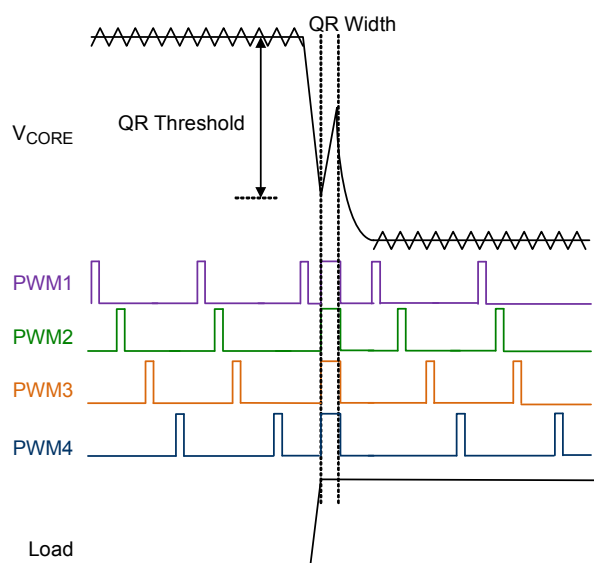
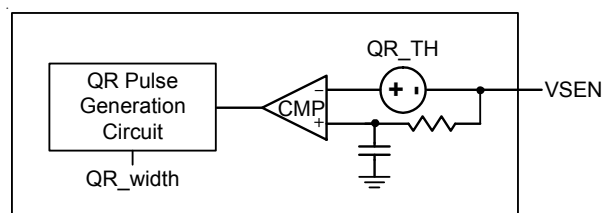

Figure 21. Quick Response Mechanism
Figure 22. Simplified QR Trigger Schematic
When the transient load step-up becomes quite large, it is difficult for loop response to meet the energy transfer. Hence, that output voltage generate undershoot to fail specification. The RT3607CE has Quick Response (QR) mechanism being able to improve this issue. It adopts a nonlinear control mechanism which can disable interleaving function and simultaneously turn on all UGATE one pulse at instantaneous step-up transient load to restrain the output voltage drooping. Figure 21 shows the QR behavior.
The output voltage signal behavior needs to be detected so that QR mechanism can be triggered. The output voltage signal is via a remote sense line to connect at the VSEN pin which is shown in Figure 22. The QR mechanism needs to set QR width and QR threshold. Both definitions are shown in Figure 21. A proper QR mechanism set can meet different applications. The SET2 can set QR threshold and QR width by internal current source 80μA with multi-function pin setting mechanism.